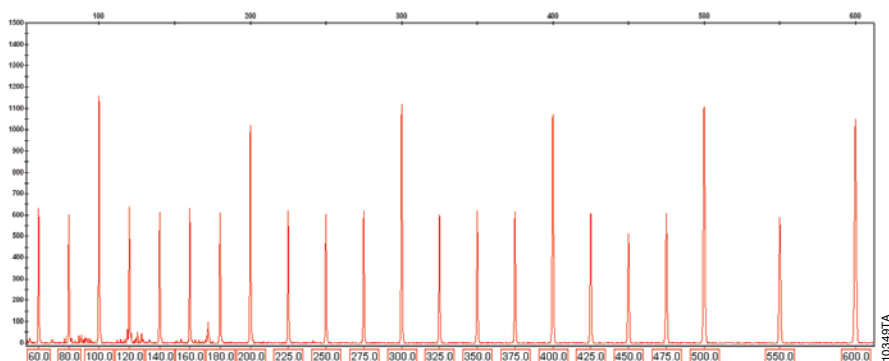

Figure 28. Internal Lane Standard 600. An electropherogram showing the Internal Lane Standard 600 fragments.
6. Assign a new size standard. Select a sample file, and highlight the arrow next to size standard. Select “define new”. Assign the size standard peaks as shown in Figure 28 in Section 9.D. Store the size standard in the Size Standards folder at: C:\AppliedBio\Shared\Analysis\Sizecaller\SizeStandards\
6. Assign a new size standard. Select a sample file, highlight the arrow next to size standard, then select “define new”. Assign the size standard peaks as shown in Figure 28 in Section 9.D. Store the size standard in the Size Standards folder.
The Internal Lane Standard (ILS) 600 contains 22 DNA fragments of 60, 80, 100, 120, 140, 160, 180, 200, 225, 250, 275, 300, 325, 350, 375, 400, 425, 450, 475, 500, 550 and 600 bases in length (Figure 28). Each fragment is labeled with carboxy-X-rhodamine (CXR) and can be detected separately (as a fourth color) in the presence of PowerPlex® 16 HS-amplified material. The ILS 600 is designed for use in each CE injection to increase precision in analyses when using the PowerPlex® 16 HS System. Protocols for preparation and use of this internal lane standard are provided in Section 5.